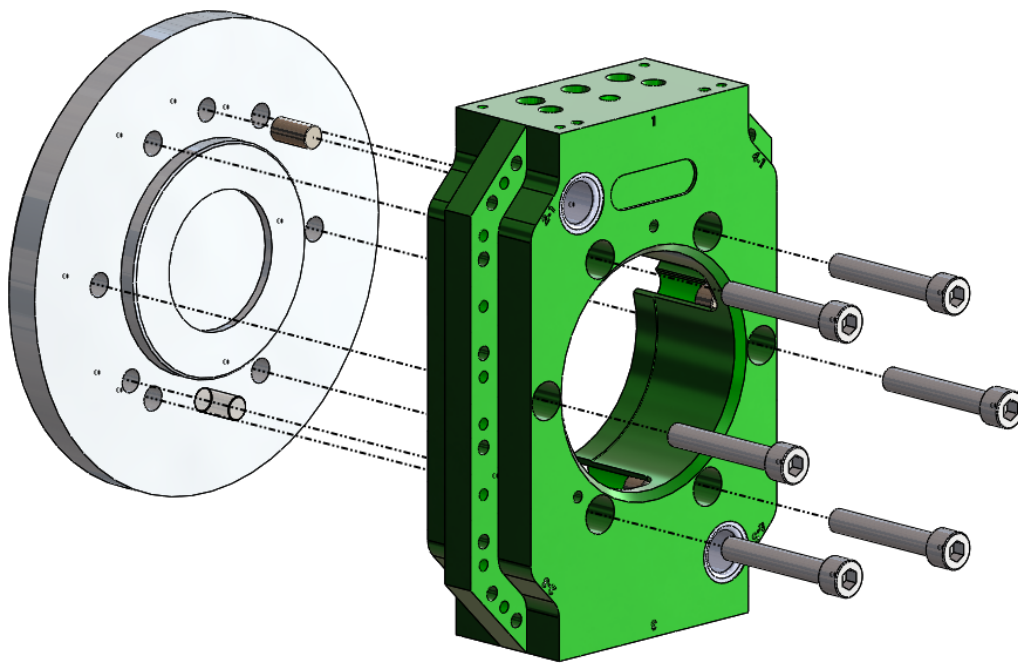

Figure 5.2-2. E125 Tool Side Installation (Bolt Top Down)
1. Locate the Tool Side to the tool plate utilizing either the locating hub and one (1) M10 locating dowel, or two (2) M10 locating dowels (Figure 5.2-2).